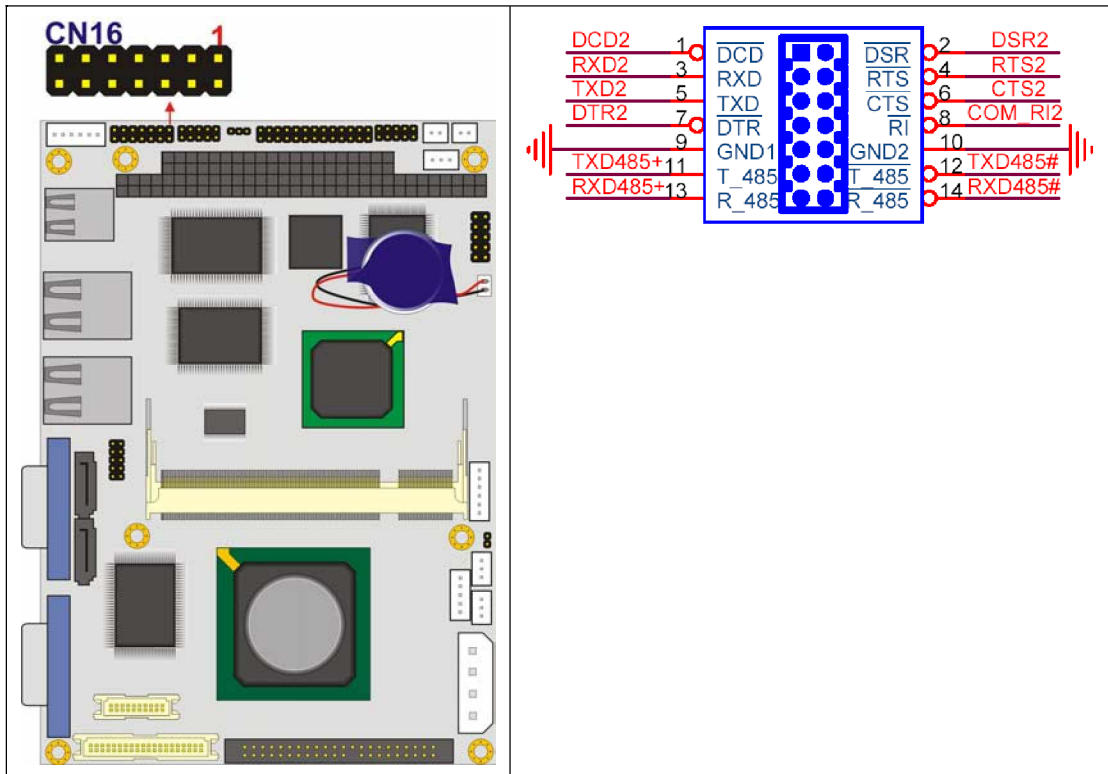

Figure 3-19: RS-232 Serial Port Connector Locations
- CN Location: See **Figure 3-19**